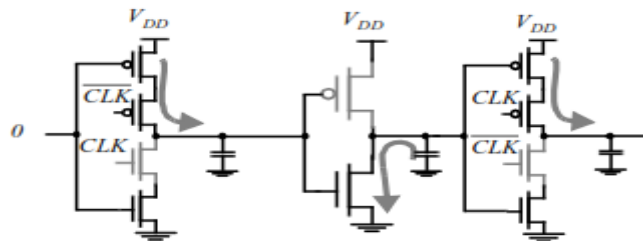

Figure 3.25 Potential race condition during (0-0) overlap in C²MOS-based design.
- The only way, a signal can race from stage to stage under this condition is, when the logic function F is inverting, as in Figure 3.25.